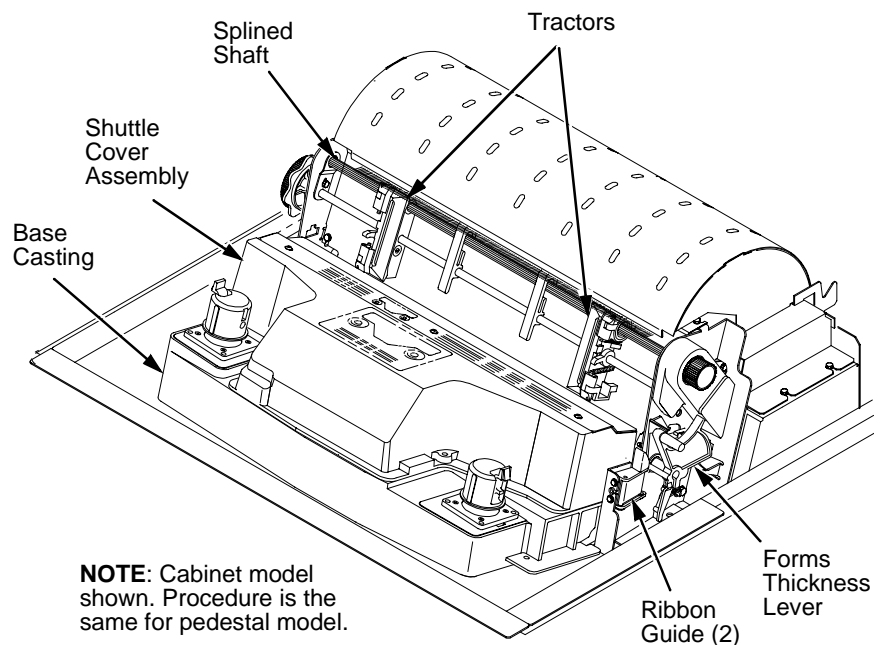

Figure 5. Cleaning Inside the Cabinet or Top Cover
6. Using a soft-bristled, non-metallic brush, wipe paper dust and ribbon lint off the tractors, shuttle cover assembly, base casting, and ribbon guides. Vacuum up the residue. (See Figure 5.)